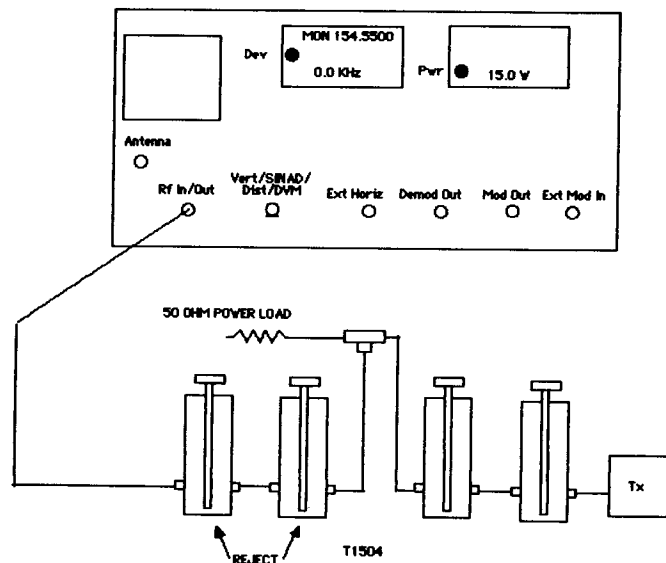

FIGURE 5.12 – DUPLEXER ADJUSTMENT SETUP; REJECT NOTCH ON RECEIVE LEG
- Connect the service monitor's "RF In/Out" to the in-service duplexer as shown in figure 5.12. Disconnect the cable at the duplexer receiver port that comes from the receiver. Move the monitor's "RF In/Out" cable from the duplexer antenna port to the duplexer receiver port. Connect a power-rated dummy load to the duplexer antenna port.